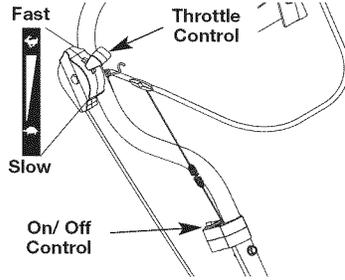
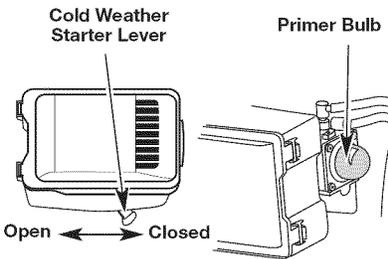
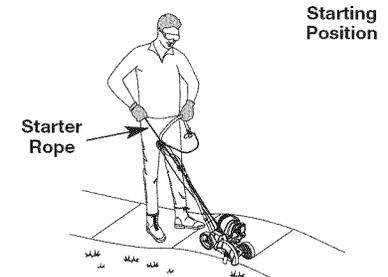

Fig. 10
Fig. 11
Fig. 12
**WARNING:** Avoid accidental starting. Make sure to be in the starting position when pulling the starter rope (Fig. 12). To avoid serious injury, the operator and unit must be in a stable position while starting.
**NOTE:** There is no need to turn the unit on. The On/Off Control is in the **ON (I)** position at all times (Fig. 10).
**IF COLD...** For cold weather conditions (below 40°F), flip the Cold Weather Start Lever (Fig. 11) back to the closed position and continue to step 3. **DO NOT** flip this lever back if the temperature is above 40°F.
3. Fully press and release the primer bulb 10 times, slowly. Some amount of fuel should be visible in the primer bulb (Fig. 11). If fuel can not be seen in the bulb, press and release the bulb until fuel is visible.
4. Stand in the starting position (Fig. 12) and make sure the throttle control (Fig. 10) is in the **SLOW (S)** position.
**NOTE:** **DO NOT** engage the bail while pulling the starter rope (Fig. 12) or the unit will not start.
6. Wait 60 seconds and then move the throttle control to the **FAST (F)** position and allow the engine to warm up for 30 to 60 seconds. The unit may be used during this time.
2. Press and hold the On/Off Control in the **OFF (O)** position until the unit comes to a complete stop. (Fig. 10)
4. Make sure the throttle control (Fig. 11) is in the **SLOW (S)** position.
6. Press and hold the electric starter or drill **ON (I)** button for 2 seconds intervals until unit starts.
**NOTE:** **DO NOT** engage the bail while starting the unit (Fig. 12) or the unit will not start.
7. From the operator's position, move the throttle control to the **FAST (F)** position and allow the engine to warm up for 30 to 60 seconds (Fig. 10). The unit may be used during this time.